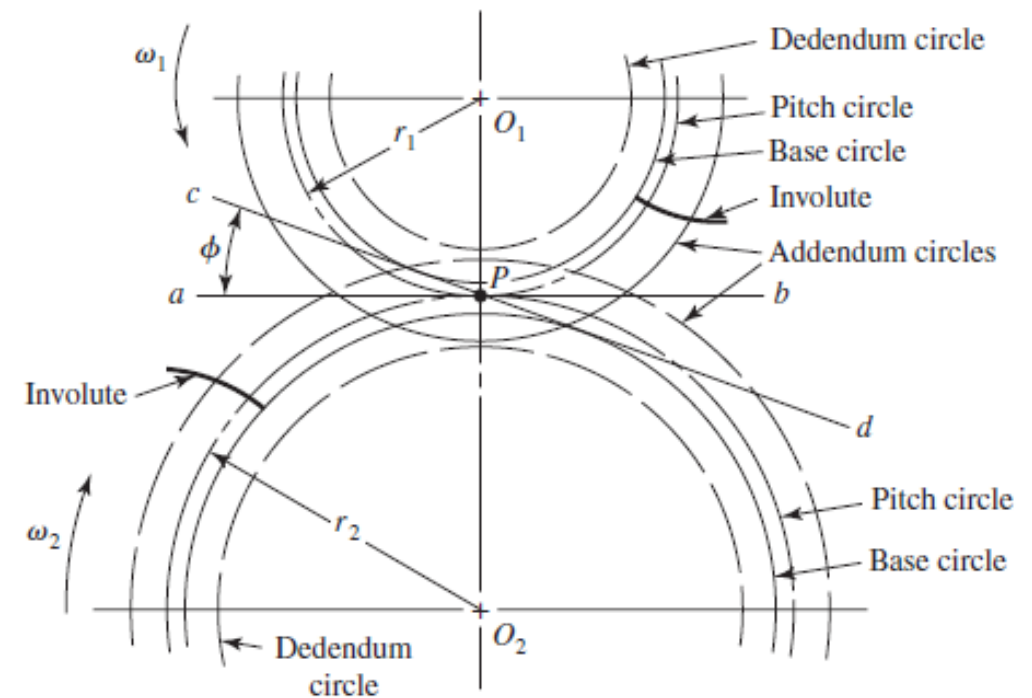

Figure 8-10 Circles of a Gear Layout.
- With this information, construct the pitch circles of radii  $r_1$  and  $r_2$  as shown in Figure 8-10. [The circles are tangent at  $P$ , the pitch point].